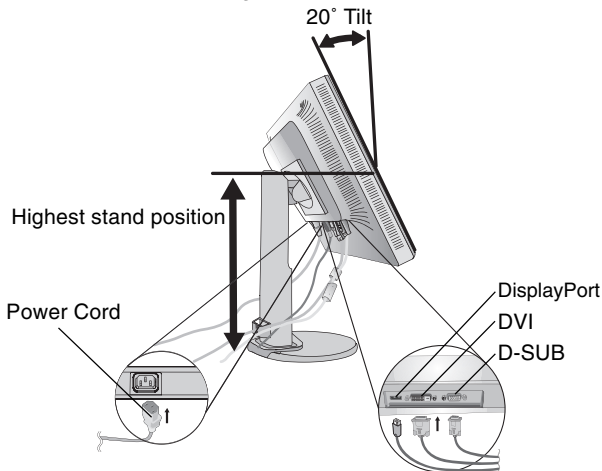

Figure B.1
3. Place hands on each side of the monitor to tilt the LCD panel 20-degree angle and lift up to the highest position (**Figure B.1**).
4. Connect all cables to the appropriate connector on the back of the monitor (**Figure B.1**).